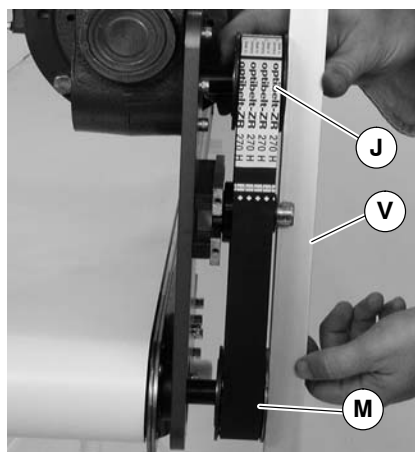
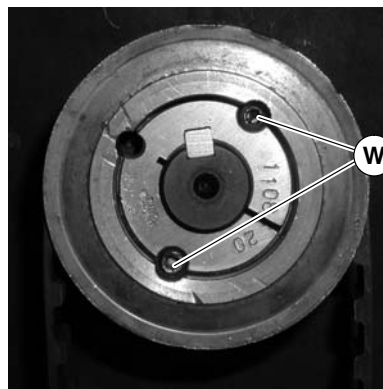

Figure 8
Figure 9
6. Wrap timing belt (Q) around driven pulley (M) and drive pulley (J). Install driven pulley (M) onto conveyor shaft.
7. Using a straight edge (V of Figure 8), align driven pulley (M) with drive pulley (J). Tighten driven pulley taper-lock screws (W of Figure 9).